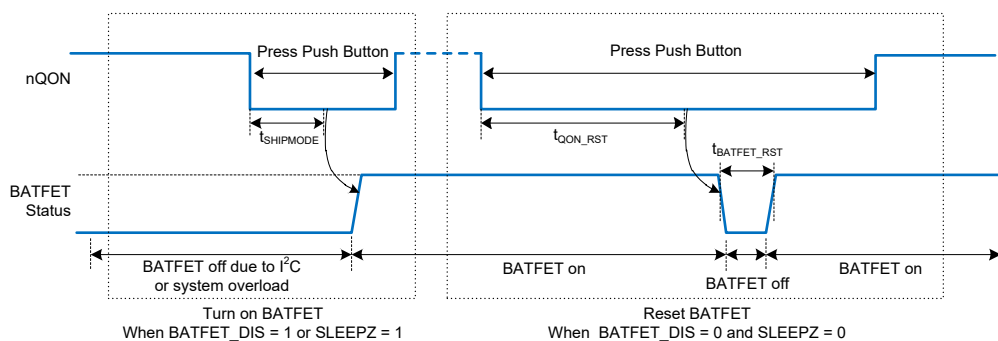

Figure 9. nQON Enable and Reset BATFET Timing
1. Enable BATFET: Applying an nQON logic high to low transition with longer than  $t_{SHIPMODE}$  deglitch time (negative pulse) turns on BATFET to exit ship mode (Figure 9 left). HIZ is also enabled (EN\_HIZ = 1) when exiting shipping mode. After exiting shipping mode, the host can disable HIZ (EN\_HIZ = 0). OTG cannot be enabled (BST\_CONFIG = 1) until HIZ is disabled.
2. Reset BATFET: By applying a logic low for a duration of at least  $t_{QON\_RST}$  to nQON pin while VBUS is not powered and BATFET is allowed to turn on (BATFET\_DIS bit = 0), the BATFET turns off for  $t_{BATFET\_RST}$  and then it is re-enabled resulting in a system power-on reset. This function can be disabled by clearing BATFET\_RST\_EN bit (Figure 9 right).